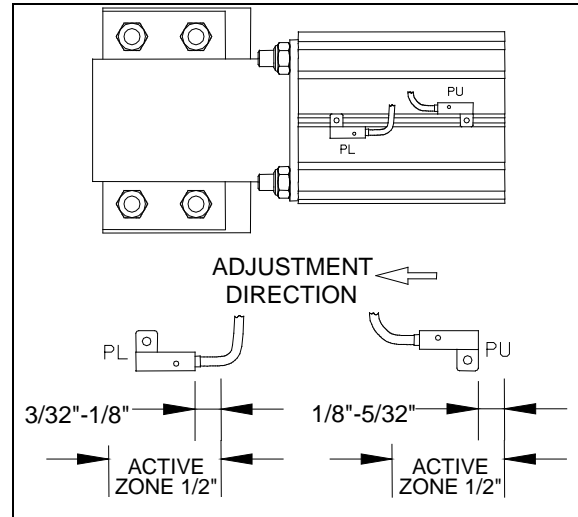

FIGURE 13 : SENSOR SWITCH ADJUSTMENT
2. Slide the pin locked sensor (PL) in the air cylinder groove (figure 13 and figure 53).
3. Place the PL sensor in the zone where it is activated. Move slowly the sensor toward the back side of the cylinder until it is deactivated. Bring back slowly the sensor (adjustment direction) and when it is activated again, continue to move it on 3/32" to 1/8". Tighten the sensor screw (figure 13).
5. Slide the pin unlocked sensor (PU) in the air cylinder groove.
(adjustment direction) and when it is activated again, continue to move it on 1/8" to 5/32". Tighten the sensor screw (figure 13).
**Note:** It is important to adjust the sensor following the adjustment direction figure 13).